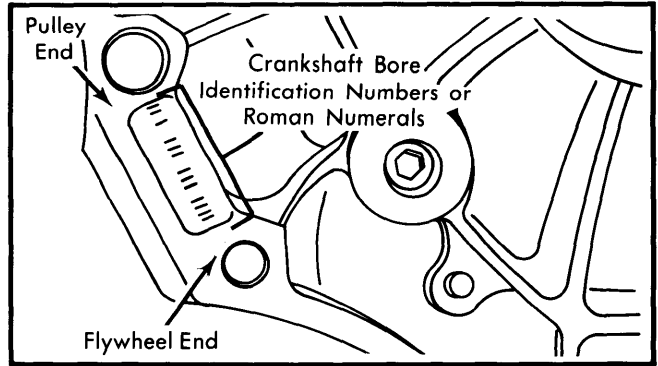

Fig. 7 Crankshaft Identification Locations (1751 cc and 1487 cc Engines)
4) Referring to *Figs. 7 and 9*, note that all letters stamped on crankshaft counterweight pads apply to nearest connecting rod journal. All numbers stamped on crankshaft counterweight apply to nearest main bearing journal. Connecting rod caps have numbers stamped on cap.